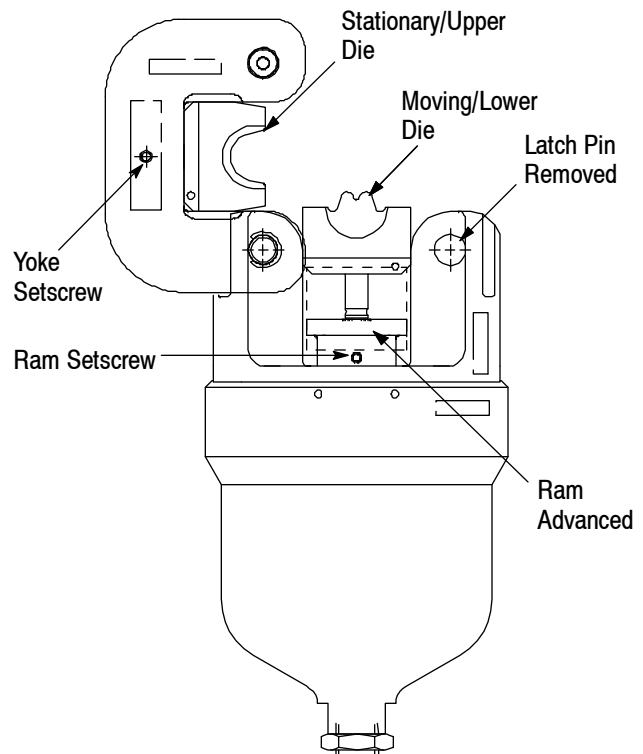

Figure 2
4. DIE INSERTION AND REMOVAL (Figure 2)**DANGER**